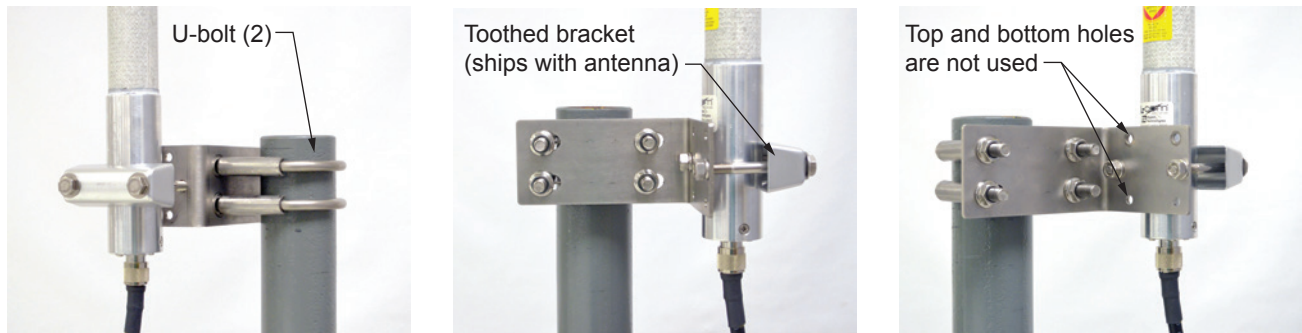

Figure 2.9—Optional 2-in. pipe mount bracket
To install the antenna, reference Figure 2.9 while following the instructions below:
2. Position the L-shaped bracket against the pipe so that the pipe is on the outside of the “L” and secure it to the pipe with the two U-bolts and four U-bolt nuts (Figure 2.9, left). The U-bolts will pass through the longest of the two bracket panels.
5. Place a flat washer over each of the 5/16-in. bolts and insert the bolts through the holes in the toothed bracket and through the center holes in the L-bracket panel (Figure 2.9, center and right).
8. Holding the antenna in place, tighten the two 5/16-in. nuts on the inside of the L-bracket to secure the antenna (Figure 2.9, right).